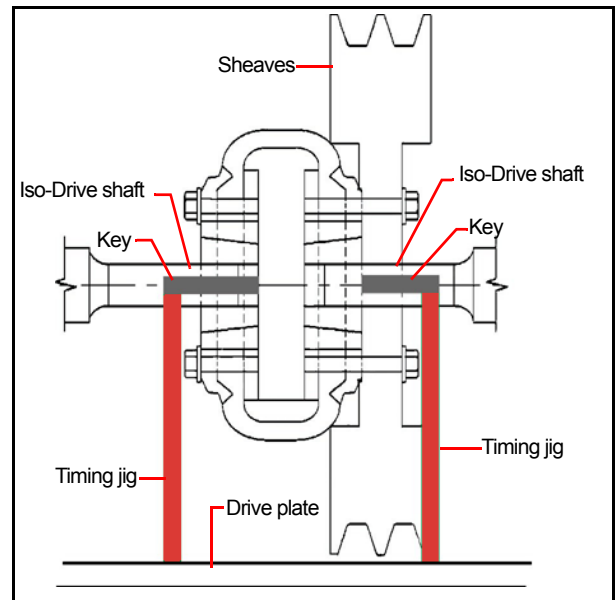

Figure 5-29 Placement of Timing Jigs on Close-coupled Drives
3. Insert the timing jigs as shown in Figure 5-28 or Figure 5-29. Ensure both jigs are perpendicular to the drive plate.